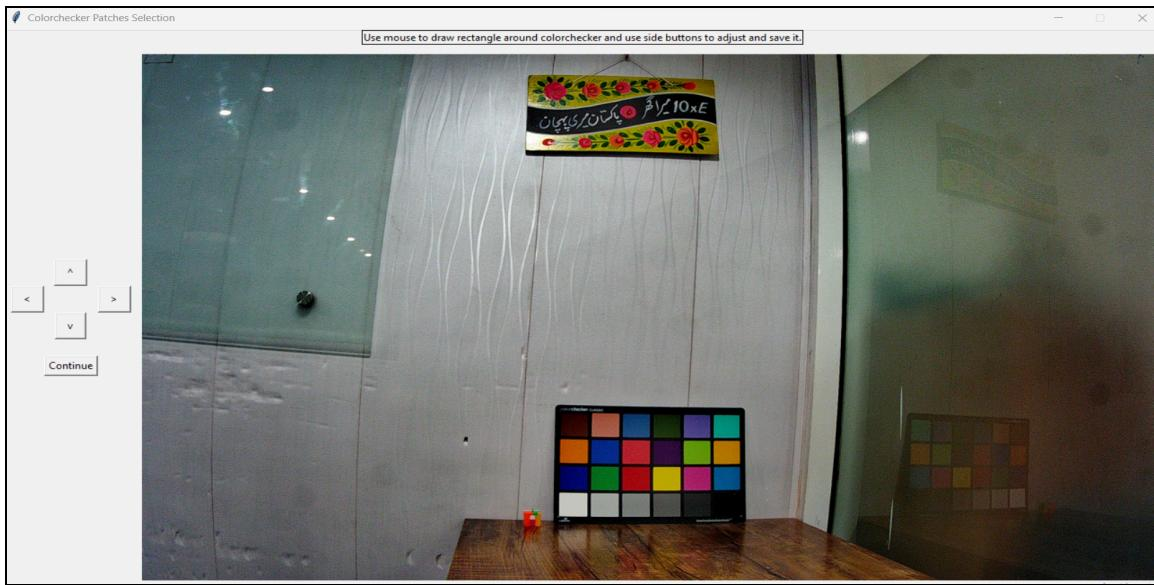

Figure 7: ColorChecker area selection frame to draw rectangle around it
Upon selecting an image that contains a ColorChecker, the image will be displayed to the user as shown in Figure 7.
- Locating the ColorChecker: Once the image is selected, a panel will open, displaying the image as already shown in Figure 7. Use his mouse to draw a rectangle around the color checker region as explained in ColorChecker area selection section above. Fine-tune the position and size of the color checker using the arrow buttons present on the left pane and press continue to run WB algorithm.